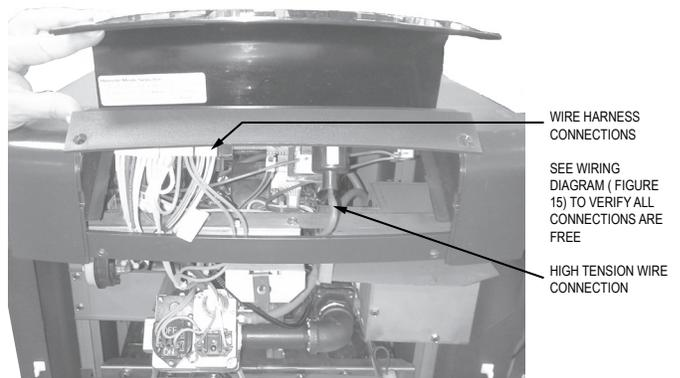

Figure 5. Wire Harness Connections
8. Carefully disconnect the wiring harnesses from the PC Board. Gently remove the high-tension wire from the ignition transformer post (see **Figure 5**).